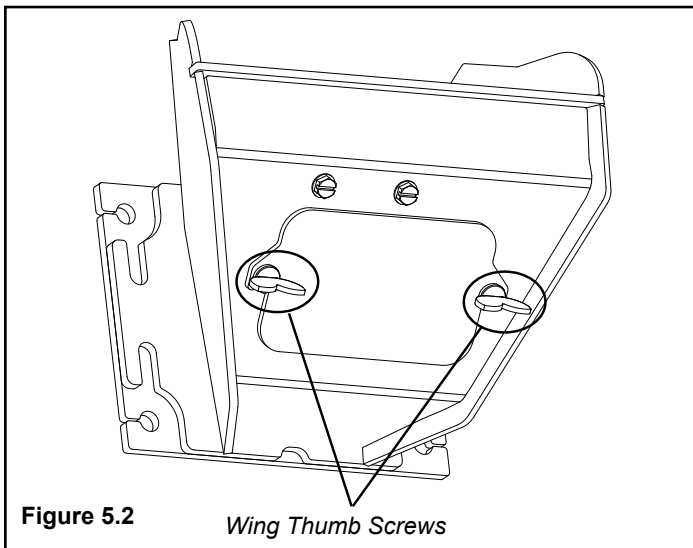

Figure 5.2
- Loosen the (2) wing thumb screws on the lower front angle of the burn pot. Figure 5.2